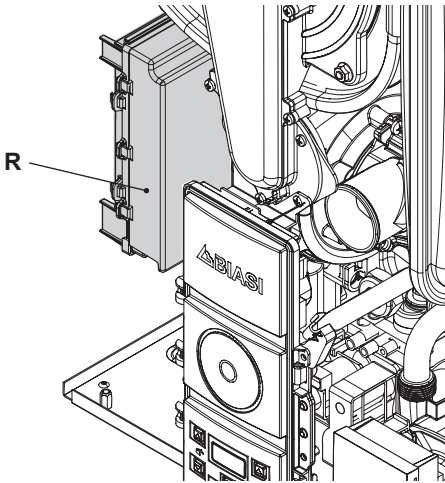

Fig. 6.16
- Identify the terminal block cover lid "R" (Fig. 6.16) and open it.